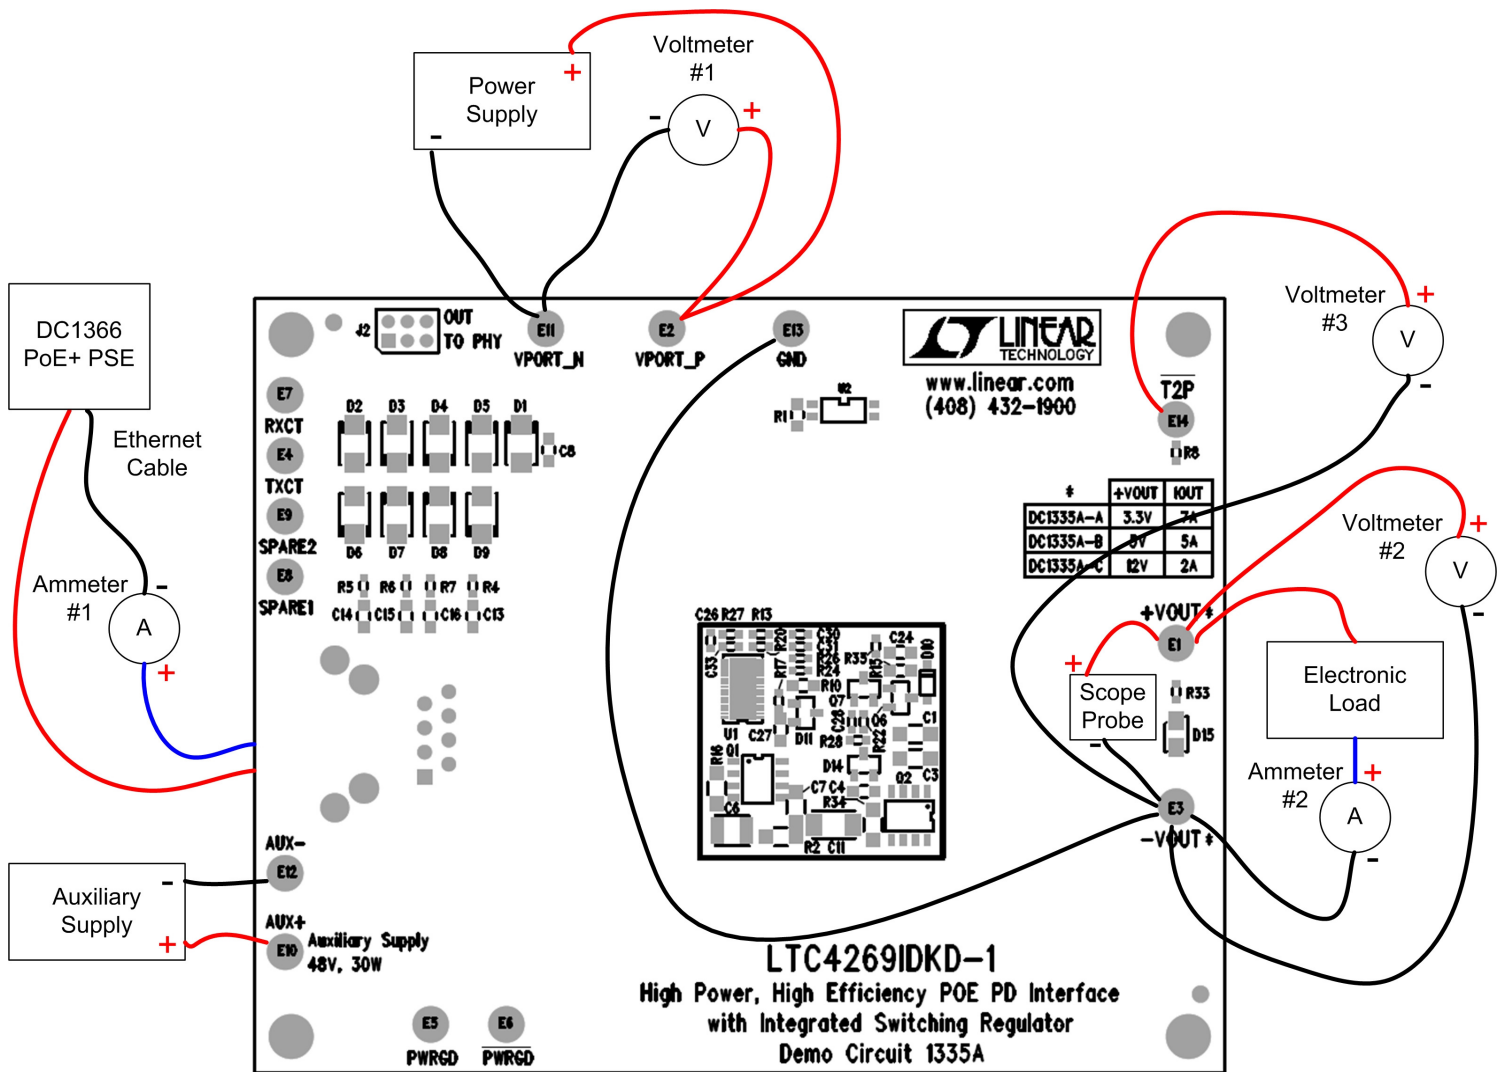

Figure 1. Proper Measurement Equipment Setup
Demonstration circuit 1335B-C is easy to set up to evaluate the performance of the LTC4269IDKD-1 in a PoE+ PD application. Refer to Figure 1 for proper equipment setup and follow the procedure below:
a. Connect a PoE+ capable PSE with a CAT-5 cable to the RJ45 connector, J1. See Figure 1.
b. Or, connect a 37V to 57V capable power supply (“Power Supply” in Figure 1) across $V_{\text{PORT_P}}$ and $V_{\text{PORT_N}}$.
c. If evaluating the auxiliary power supply (“Auxiliary Supply” in Figure 1) capability, connect a 44V to 57V capable power supply across AUX+ to AUX-.